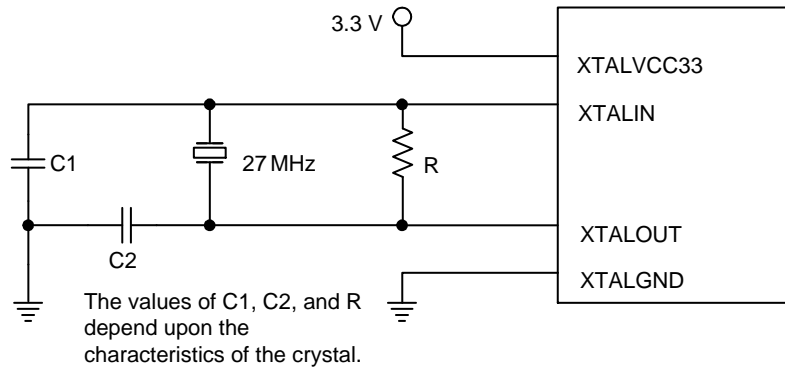
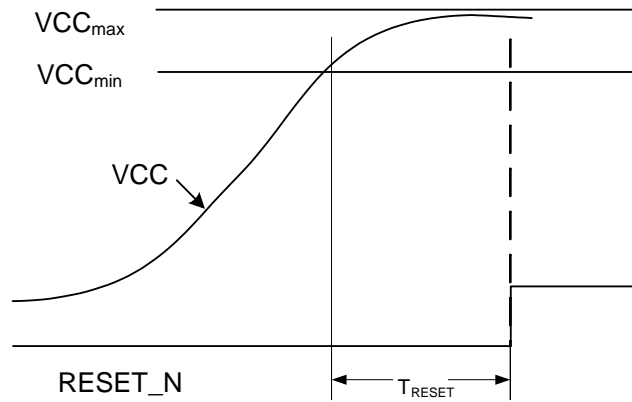
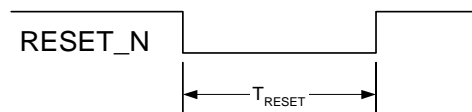

Figure 3.2. Audio Crystal Schematic
Figure 4.1. Conditions for Use of RESET_N
Figure 4.2. RESET_N Minimum Timing
- Reset on RESET_N signal can be LOW as the supply becomes stable (shown in Figure 3.2 on the next page), or pulled LOW for at least T_{RESET} (shown in Figure 4.2 on page 20).
VCC must be stable between the limits shown in the Normal Operating Conditions section on page 13 for T_{RESET} , before RESET_N goes HIGH, as shown in Figure 4.1. Before accessing registers, RESET_N must be pulled LOW for T_{RESET} . This can be done by holding RESET_N LOW until T_{RESET} after stable power, or by pulling RESET_N LOW from a HIGH state for at least T_{RESET} , as shown in Figure 4.2.